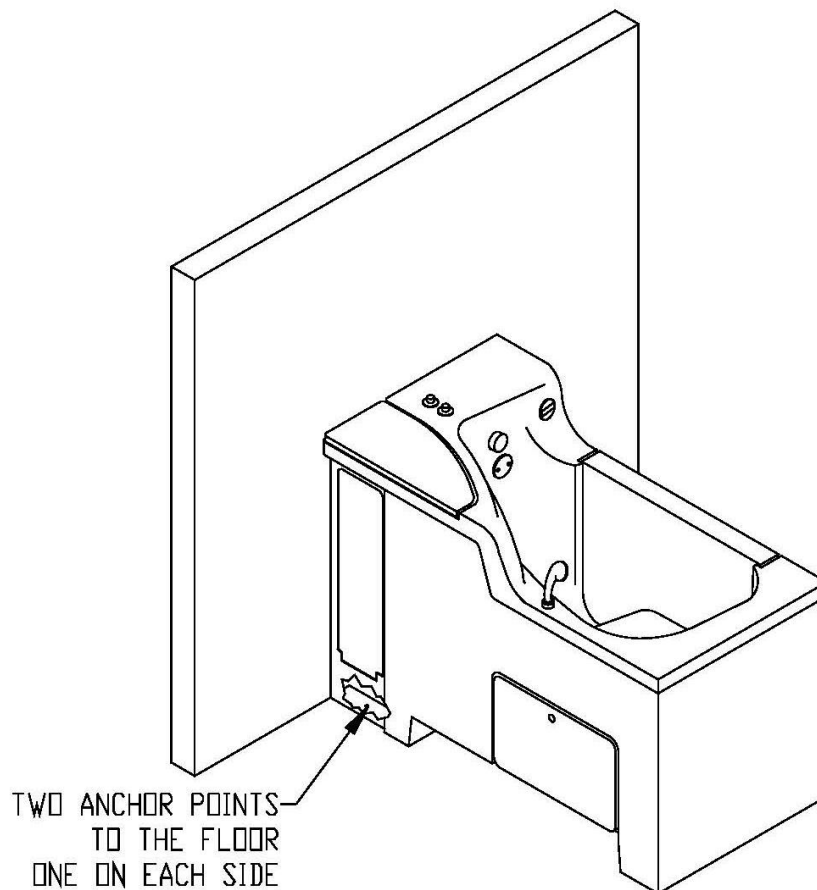

Figure 13
4. There are two anchor holes provided in the fiberglass return flange of the tub. One on each side, just inside the side access doors. See figure 13. Install floor anchors through these holes. Two 5/16 x 2 concrete anchor bolts have been provided for this purpose. If the floor is something other than concrete, consult the building engineer for anchor selection.